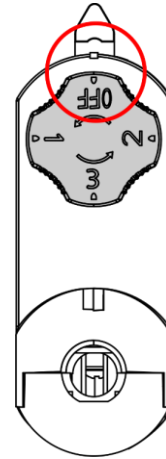

Fig. 10
- 03) Set the **circuit selector (03)** in OFF position, as shown in Fig. 10.